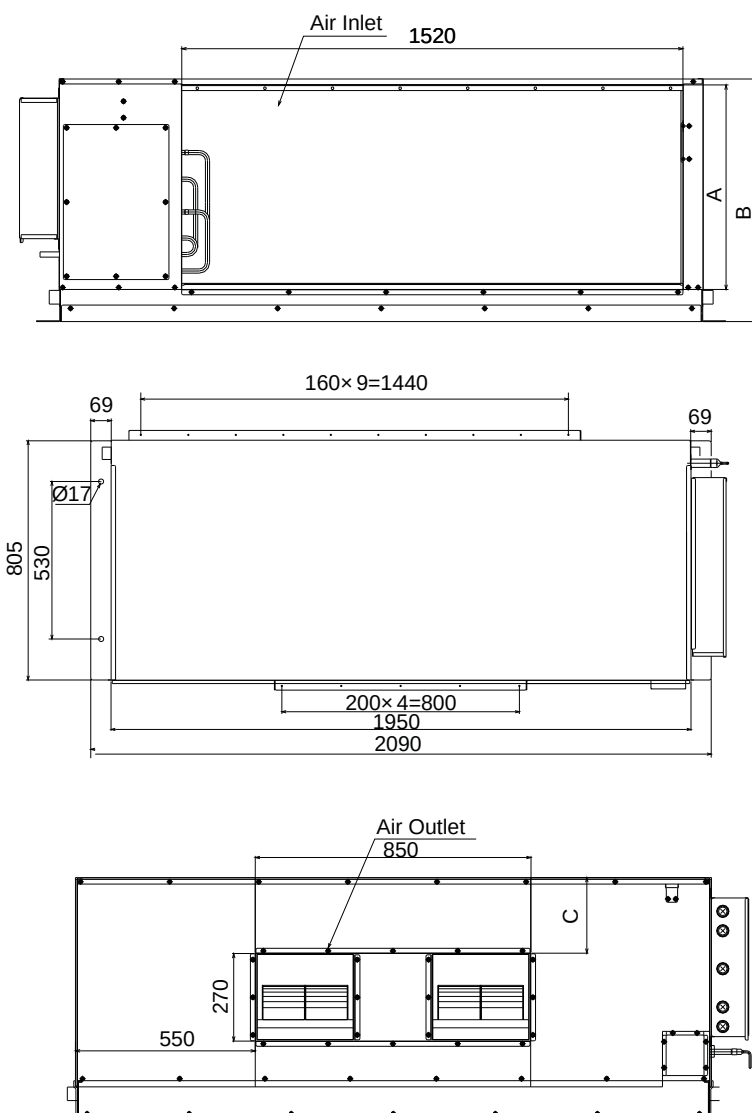

Fig4.3 Sling Bolts
- (1) Mark the positions of the sling bolts, refrigerant piping connections and drain connection.
- (2) Installation dimensions are shown in Fig 4.3.